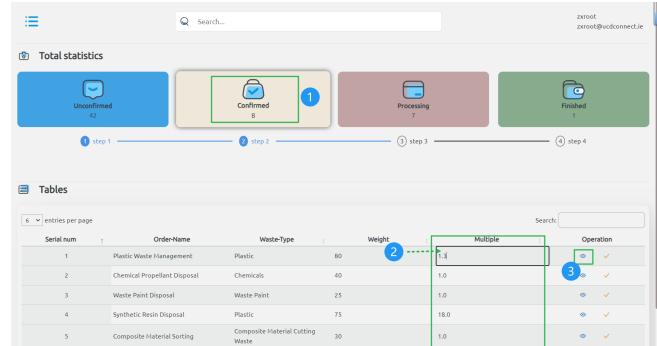

Figure 16: Confirmed table
- In **Figure 16**, you can see all “**Confirmed Orders**” and manage them. Click box[1] can switch to the confirmed table, *eye icon*[3] can see all details of one order like some attributes, you can accord to the special condition to set the process multiplier that reveal the difficulty of handling, you can directly click[2] on the table to change it. Like it said above, the order can change status to **Processing**, and also need to check the processing capacity of this type of waste, and the corresponding weight equals to original weight multiple the multiplier. Then the waste storage will release the weight.